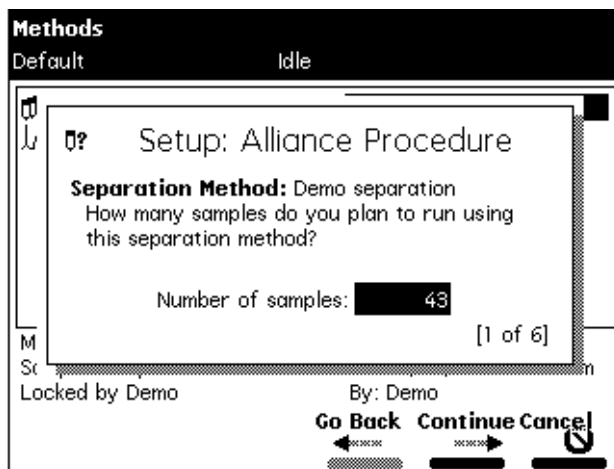

Figure 5-8 Setup Dialog Box
2. Select the sample template you want to run, then press **Enter**. The Setup dialog box appears (see Figure 5-8).